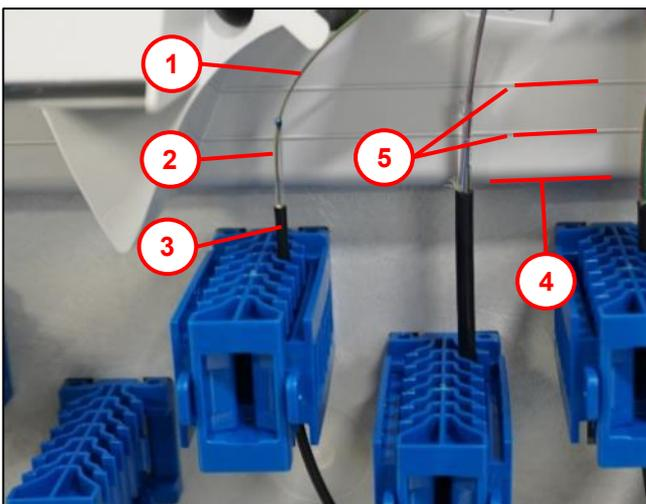

Fig. 31
- Press the micro cable (1) into the clamping points (2), referring to Fig. 31 for the length to be stripped above the clamping points.
- Insert the cover (3). Push the cover back and swivel it fully in until the snap tab (4) audibly clicks into place.